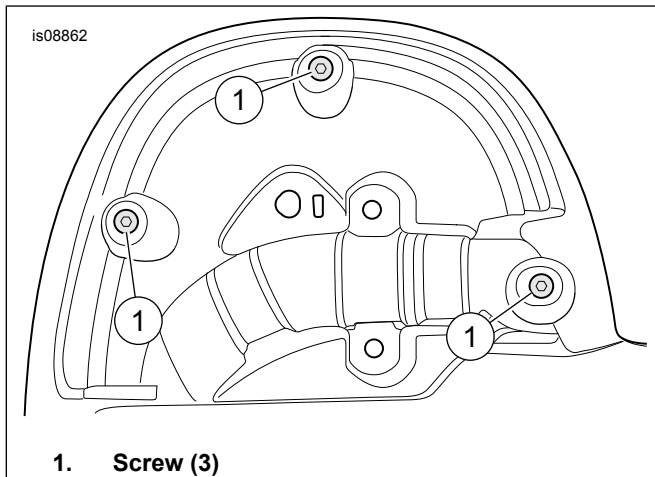

Figure 1. Rear Screws
2. See Figure 1. **From the back:** Remove screws (1).